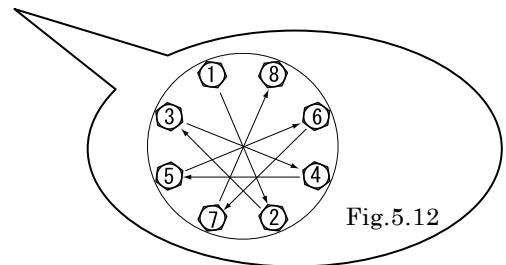

Fig.5.12
- Tighten the bolts gradually in a diagonal sequence with even torque. (cf. Fig.5.12)